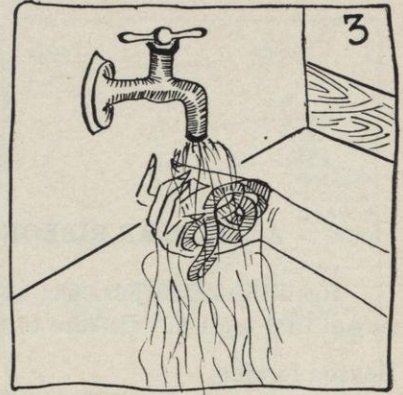

FIG. 3.
4. Wet the piece of ribbon by dipping it into a bowl of clean water, or by holding it under the running faucet (see Figure 3).